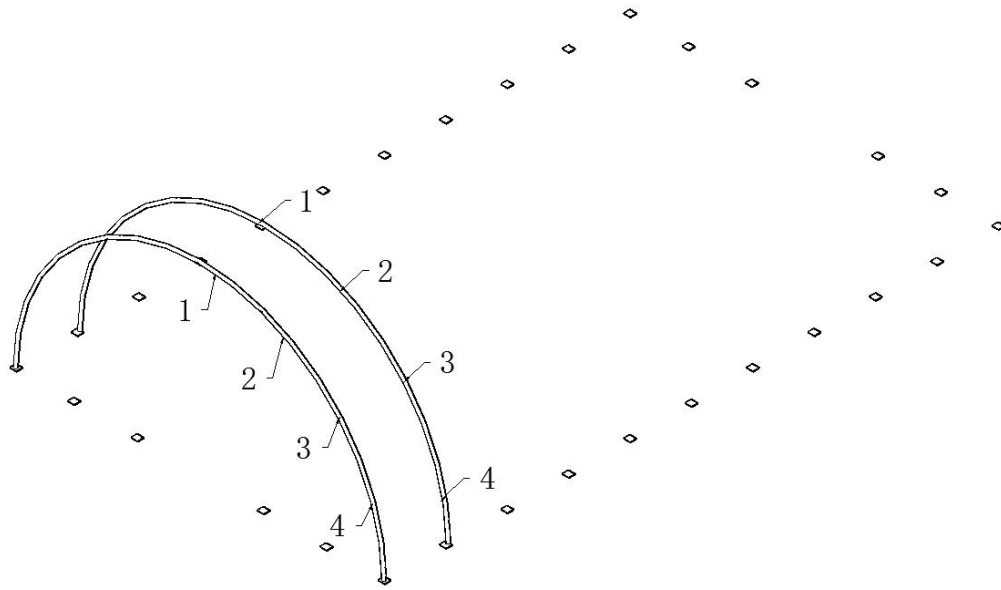
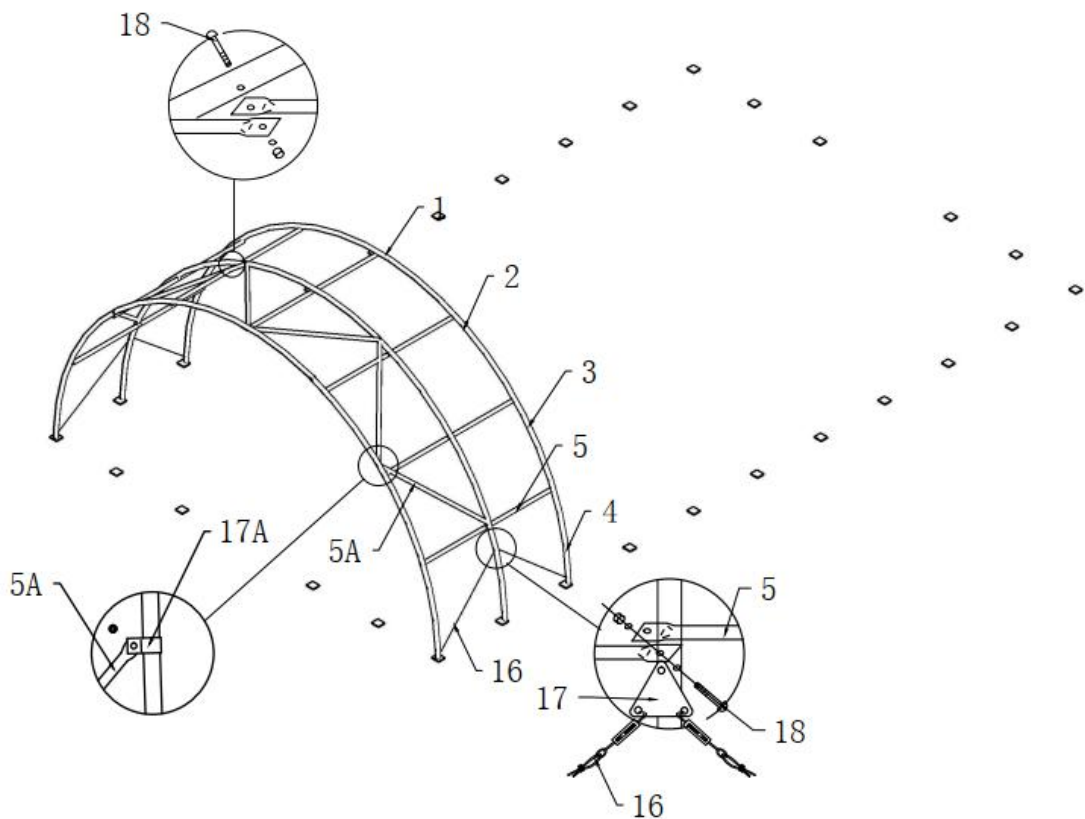

Figure 6
Figure 7
2.Put the second group of arch frame into the base plates like the Figure 6 shows.Use purlins(No.5) to connect them by boltM12x100(No.18) and angle iron(No.17),then install the third arch into the base plate and connect the purlins.In this turn fix all other arches and purlins as figure 7 shown until the frame is completed.